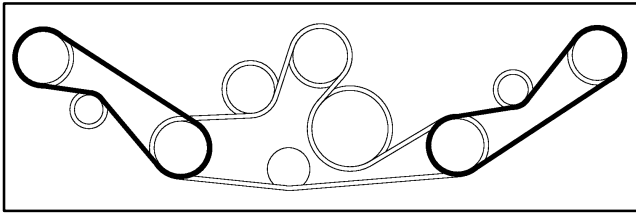

Figure 23
5. Route new belts around spindle pulleys and thru idler pulley assemblies as shown in figure 23.